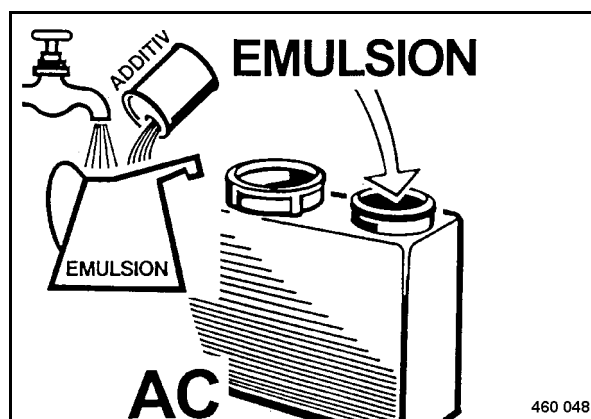

Fig. 84
- Check the emulsion level in the emulsion tank at the back of the machine, top up if necessary (Fig. 84).